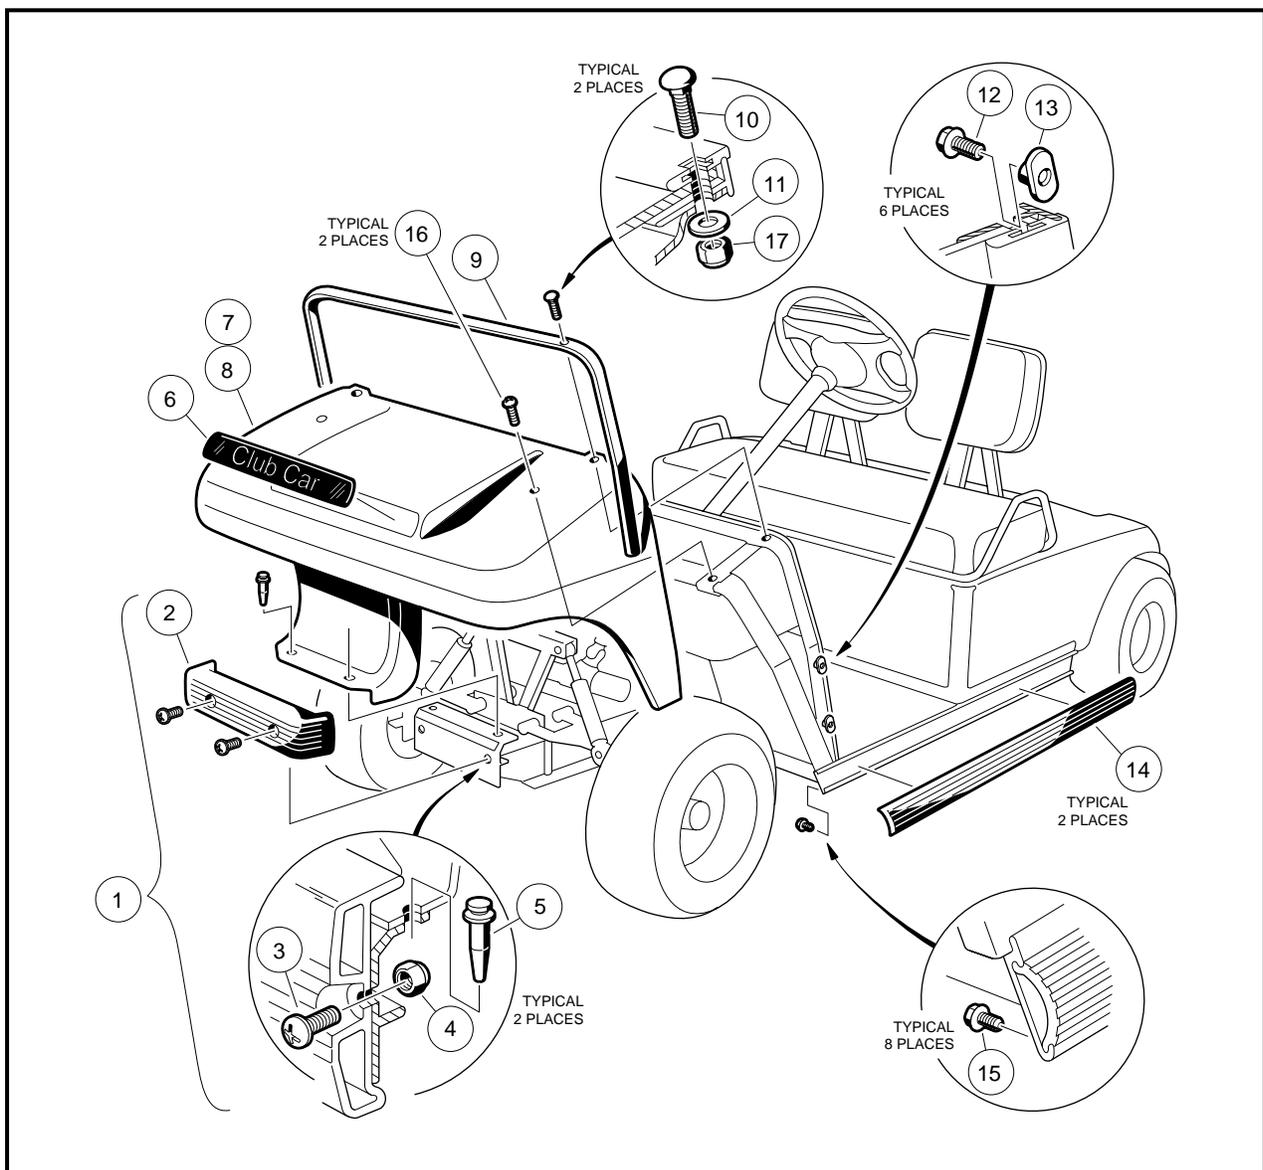

Figure 4-1 Front Body Assembly
1. Remove screws (3) and nylon locknuts (4) to remove front bumper (2) from vehicle frame. Remove blind rivets (5) (**Figure 4-1, Page 4-5**).
2. Remove carriage bolts (10), locknuts (17), and washers (11) from front body trim. Remove screws (16) from top of front body (**Figure 4-1, Page 4-5**).
3. Loosen (do not remove) T-nut screws (12) securing front body trim (9) against front body (**Figure 4-1, Page 4-5**).
4. Pull front body from under front body trim (9) and lift it from the vehicle (**Figure 4-1, Page 4-5**).
1. Position the front body on vehicle under front body trim (9). Secure front body trim against front body by tightening the six screws (12) into the trim (**Figure 4-1, Page 4-5**).
2. Install carriage bolts (10), washers (11) and locknuts (17) onto front body trim. Tighten carriage bolts to 11 ft.lb (14.9 N-m). Install screws (16) onto top of front body. Tighten screws to 20 in.lb (2.3 N-m) (**Figure 4-1, Page 4-5**).
3. Install blind rivets (5) (**Figure 4-1, Page 4-5**).
4. Mount the bumper onto the vehicle. Install screws (3) and locknuts (4) to attach front bumper to vehicle frame. Tighten screws to 65 in.lb (7.3 N-m) (**Figure 4-1, Page 4-5**).